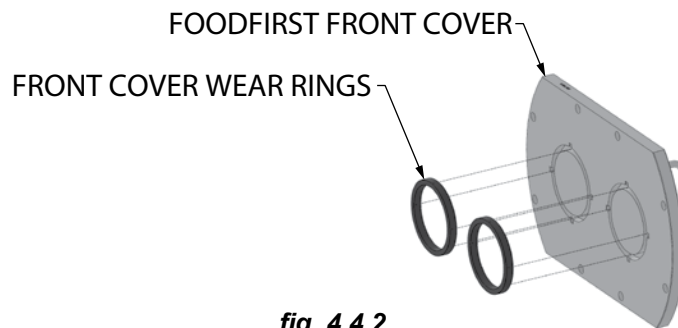

fig. 4.4.2
4.4.1.4.1 FoodFirst Front Cover Wear Ring Removal- Standard Front Cover (ref. fig. 4.4.2)